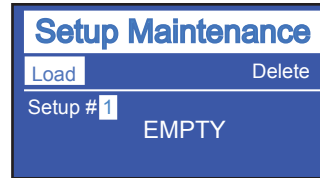

Figure 5-17 Setup Maintenance - 1
1. When the **SETUP** key is pressed for the first time, the display looks like Figure 5-17. This screen indicates that Setup #1 is Empty. Because there is not yet any data available, this setup has nothing in it, and is empty. You will see that **Load** is highlighted.